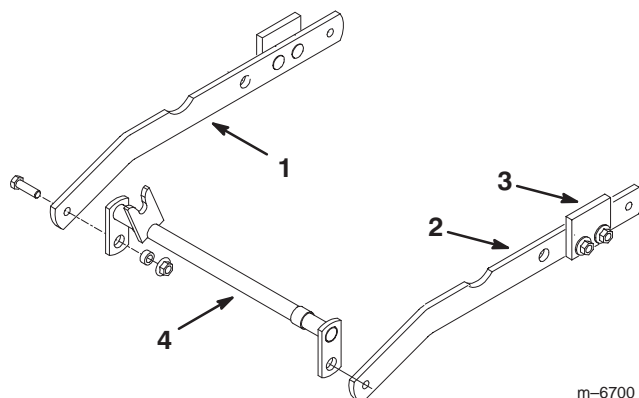

Figure 3
5. Loosely mount a new draft bar assembly to each end of the hitch assembly with a capscrew (3/8 x 1-1/4 inch), spacer (5/16 inch long) and lock nut (3/8 inch) (Fig. 3). Make sure the draft bar bumpers are positioned to the outside.